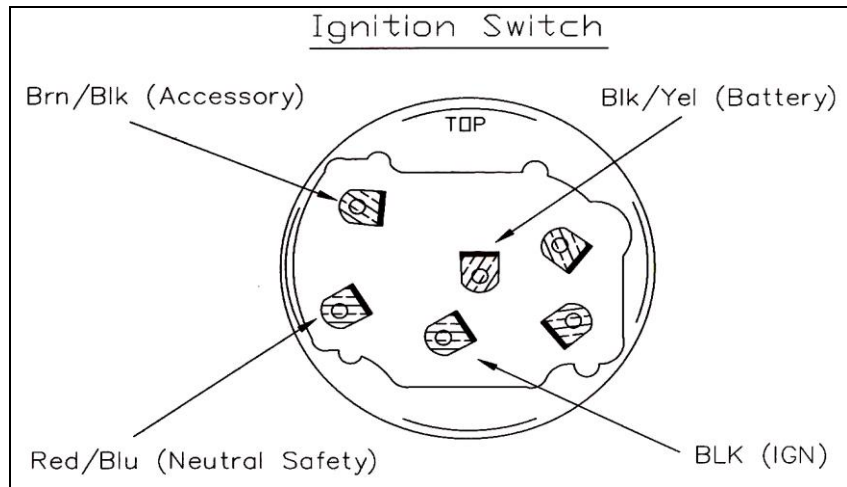

Figure 7-16 Ignition Switch w/Painless Harness P/N 10118
- 7.7.1** Connect the IGNITION SWITCH wires to the new supplied Ignition Switch as illustrated in **Figure 7-16**. This switch is **ONLY SUPPLIED** in **P/N 10118**. **On 1967-1972 Model trucks it will be necessary to cut the Ignition Switch wires to fit. They are extra long to accommodate the later model truck dashes. The four spade terminals required are included in the parts kit. See Figure 7-16 and 7-17.**